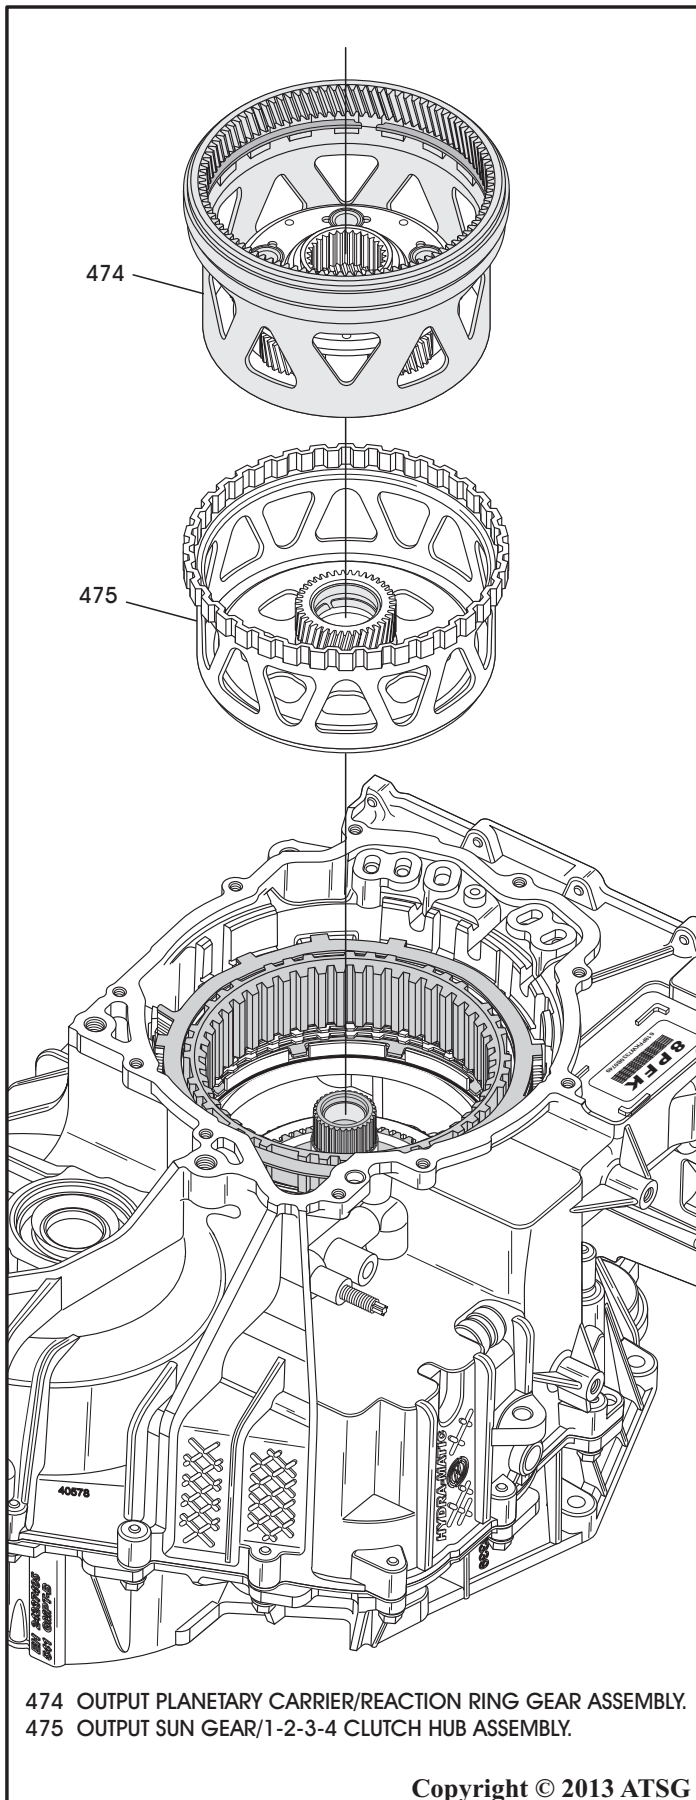

Figure 201
28. Install the output sun gear/1-2-3-4 clutch hub assembly, as shown in Figure 201, by rotating back and forth to engage the friction plates until fully seated.
29. Install output planetary carrier/reaction ring gear assembly, as shown in Figure 201.